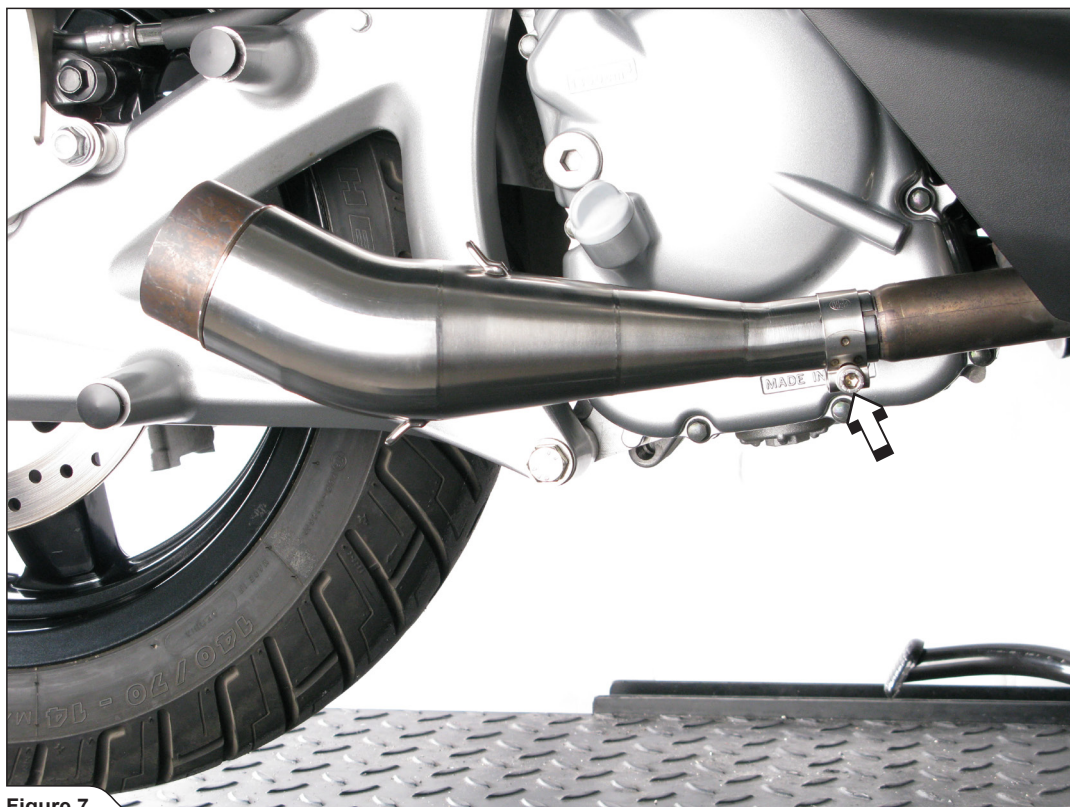

Figure 7
4. Correctly position and slide the Akrapovič link pipe onto the stock header and hand tighten the metal clamp (**Figure 7**).